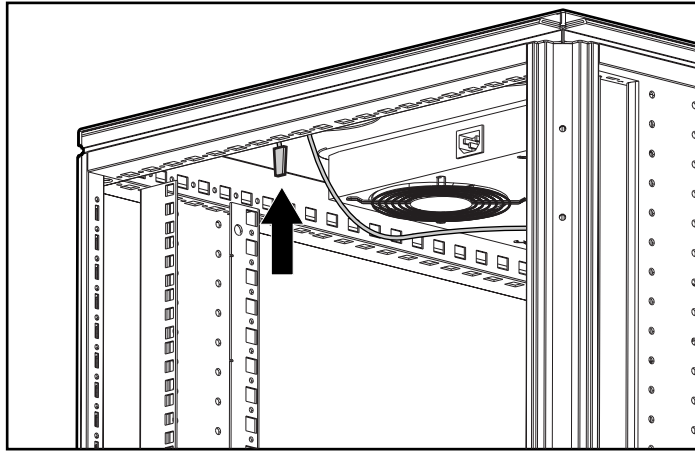

Figure 2-4. Installing the temperature sensor
- The optional temperature sensor should be installed on the ceiling of the second rack, towards the rear. (See Figure 2-4)